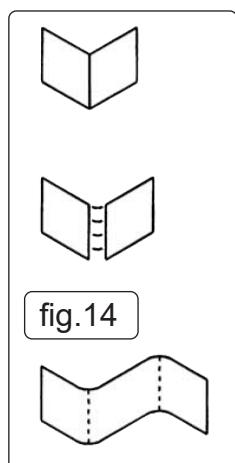

fig.14
- 6.12.5. Refer to Figure 14 to determine if an adjustment is needed.